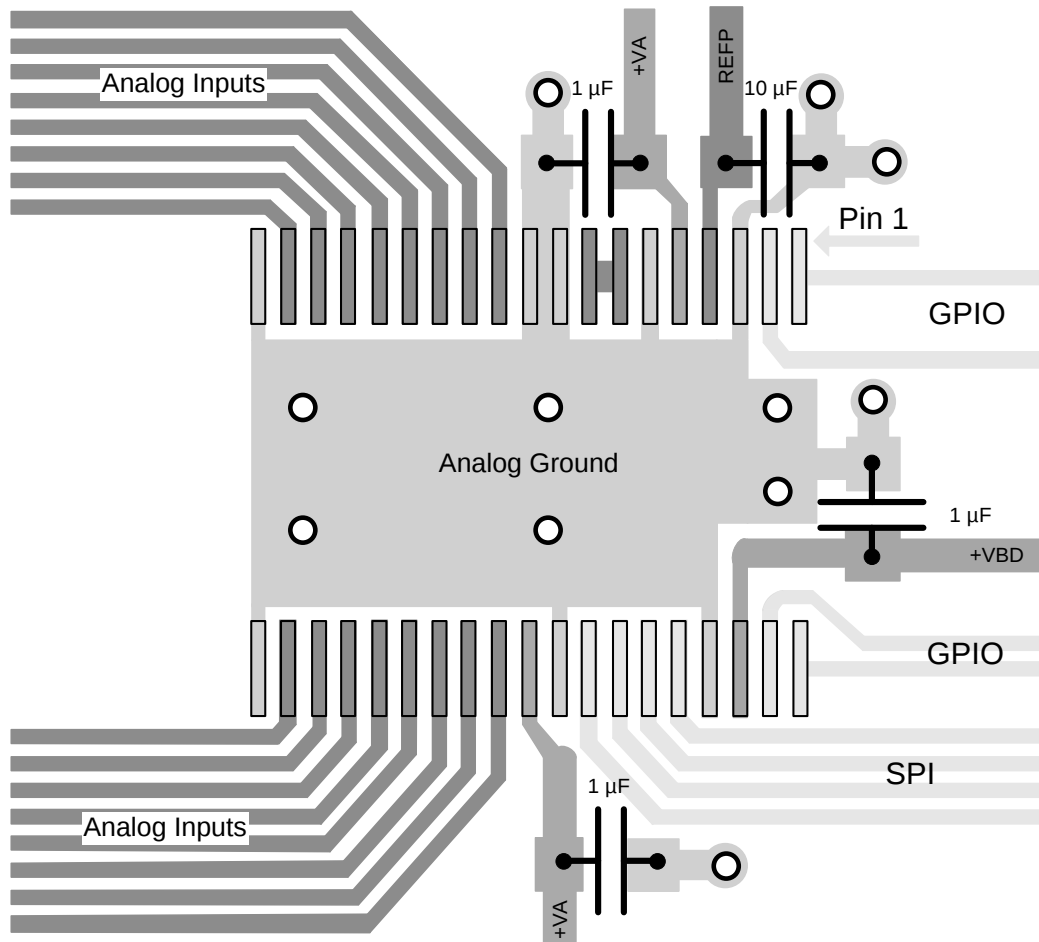

Figure 69. Recommended Layout for the TSSOP Packaged Device
- The power sources must be clean and properly decoupled by placing a capacitor close to each of the three supply pins, as shown in Figure 69 and Figure 70. To minimize ground inductance, ensure that each capacitor ground pin is connected to a grounding via by a very short and thick trace.
- The REFP pin requires a 10- μ F ceramic capacitor to meet performance specifications. Place the capacitor directly next to the device. This capacitor ground pin must be routed to the REFM pin by a very short trace, as shown in Figure 69 and Figure 70.
The full-power bandwidth of the converter makes the ADC sensitive to high frequencies in digital lines. Organize components in the PCB by keeping digital lines apart from the analog signal paths. This design configuration is critical to minimize crosstalk. For example, in Figure 69, input drivers are expected to be on the left of the converter and the microcontroller on the right.